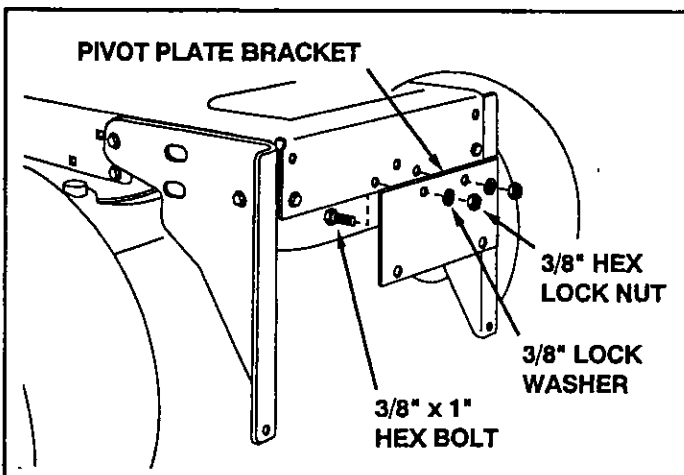

FIGURE 5
- Skip over to instructions for figure 5 on page 6.
- Assemble the pivot plate bracket to the front of the tractor frame using two 3/8" x 1" hex bolts, two 3/8" lock washers and two 3/8" hex lock nuts. Make sure the bracket is straight and then **tighten.** See figure 5.